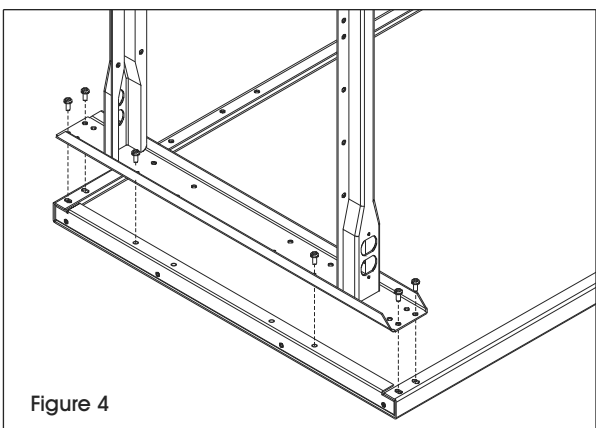

Figure 4
- Align leg holes to end of tabletop. Secure with six 1/4"-20 x 5/8" bolts. Threaded inserts are provided on each tabletop end. (See Figure 4)